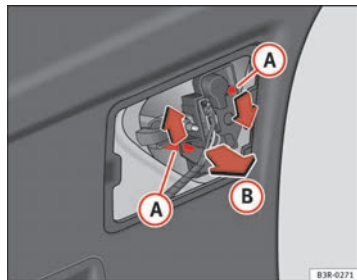

Fig. 235 Remove the bulb holder
- Press on the tabs A ⇒ fig. 235 in the direction of the arrows and remove the bulb holder by pulling in the direction of the arrow B.